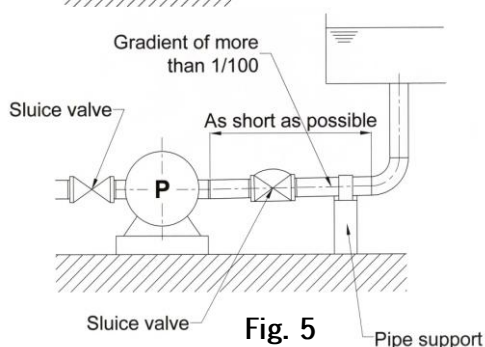
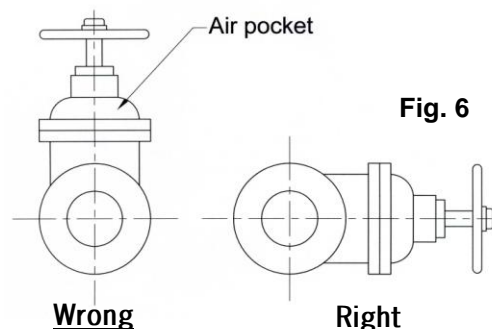

Fig. 5
Fig. 6
- (1) Install a sluice valve on suction pipe between the pump and tank as shown in Fig. 5. Sluice valve should be installed with their handles facing sideways so as not to produce any air pocket Fig. 6.
- (2) Connect horizontal portion of pipe with a gradient of more than 1/100 toward pump, as shown in Fig. 5.